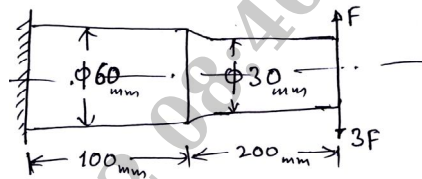

Fig.Q4(c)
- c. A steel rod ($\sigma_y = 400.1$ MPa and $\sigma_{-1} = 345.2$ MPa) of circular cross-section shown in Fig.Q4(c) is subjected to load varying from $3F$ to F . Determine the value of F . Use a factor of safety 3. Take stress concentration factor = 1.43, $q = 1$.